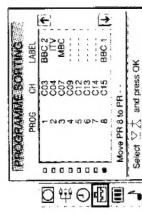

Fig. 14
- 3 Select »Programme Sorting« with $\Delta+$ or $\nabla-$ and press OK. The PROGRAMME SORTING menu appears. (See Fig. 14.)